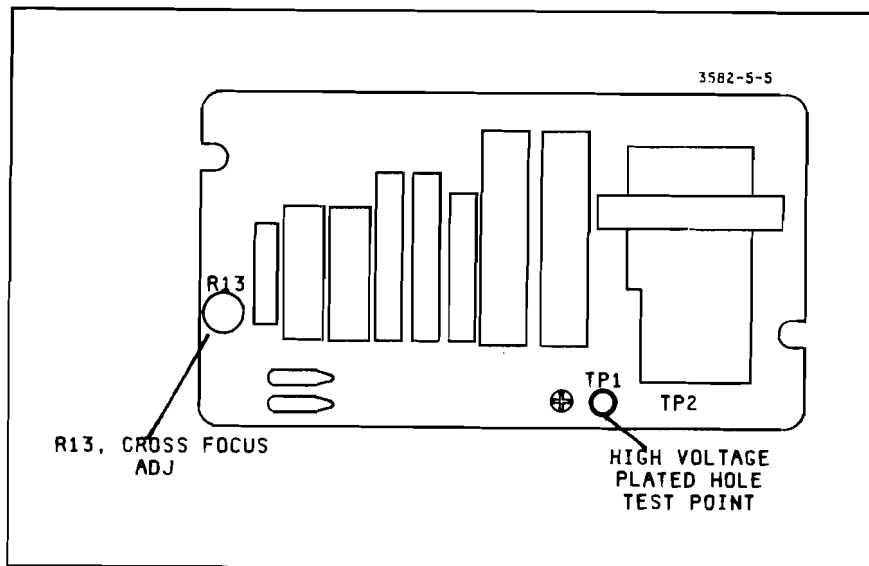

Figure 5-4. High Voltage Board, A65.
- j. Connect the High-Voltage probe to the plated-hole test point on the High Voltage board. The location of this test point is shown in Figure 5-4.